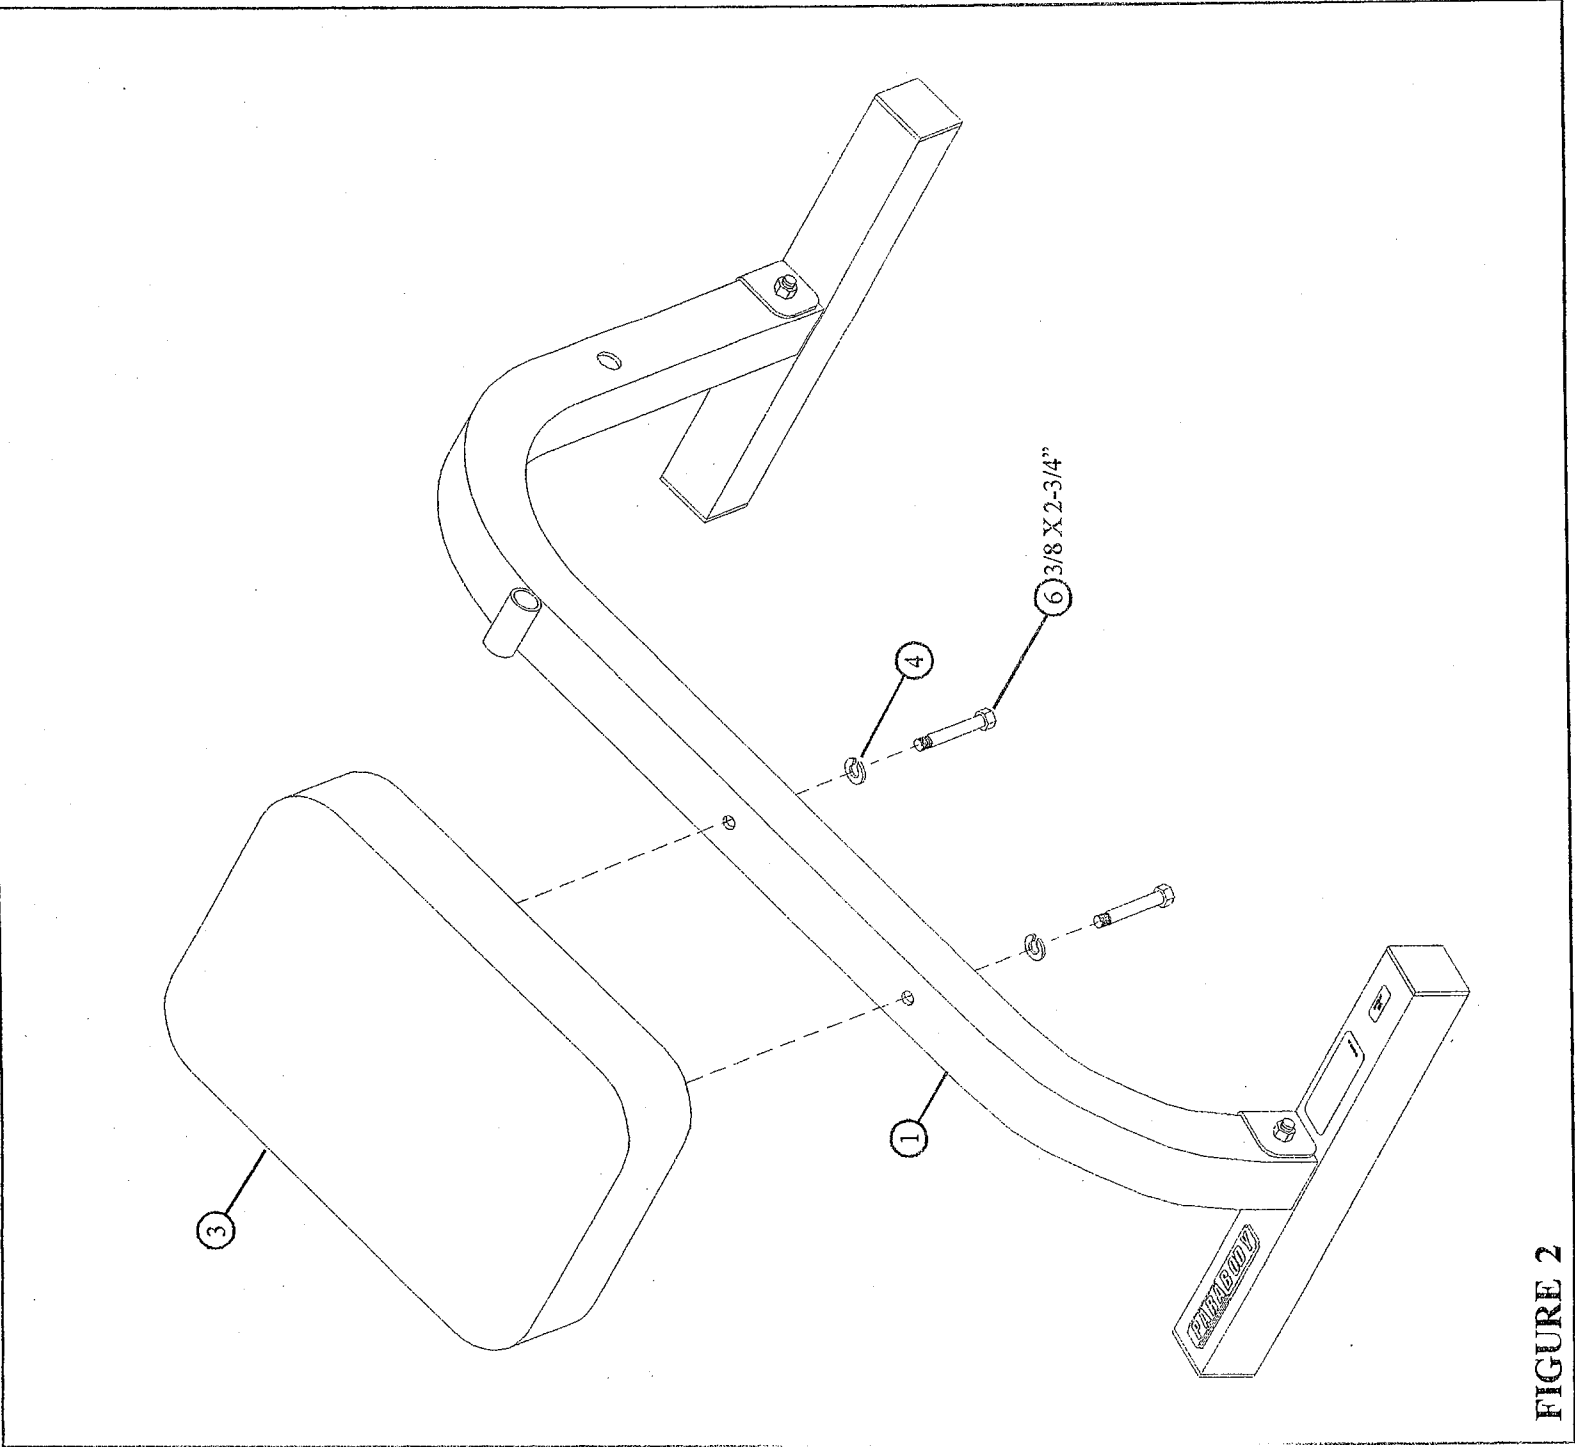

FIGURE 2
- **SECURELY** assemble the PAD (3) to the BENCHFRAME (1) using two 3/8" X 2-3/4" BOLTS (6), two 3/8" LOCK WASHERS (4). See FIGURE 2.